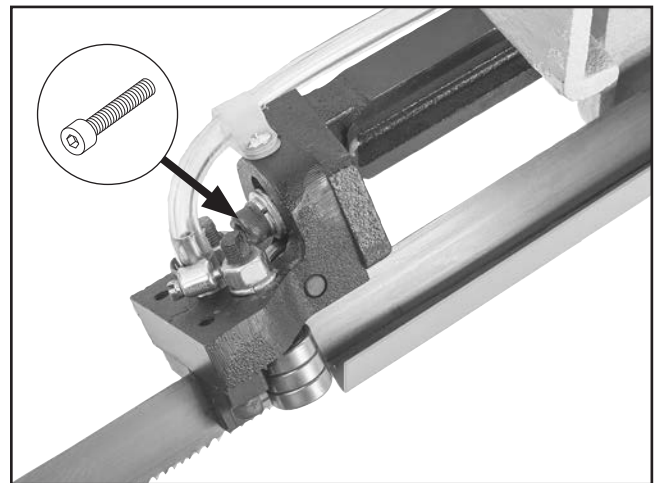

Figure 76. Location of adjustment cap screw (upper blade guide assembly shown).
5. Loosen cap screw on blade guide assembly that needs adjustment (see **Figure 76**), and rotate blade guide until blade is vertical to bed.